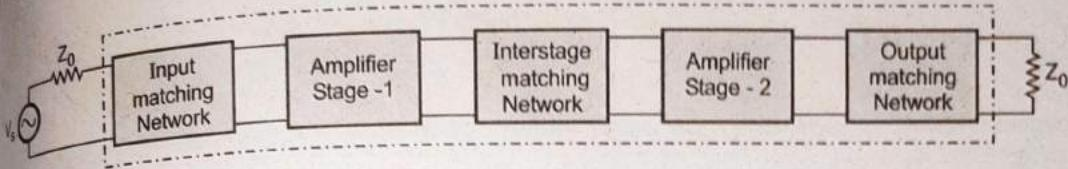

Fig. 5.6.18 Two stage amplifier
- Input and output matching networks are needed to couple source and load respectively. Also, there is need of interstage matching network for matching the output of stage-1 with input of stage-2 as shown in Fig. 5.6.18.